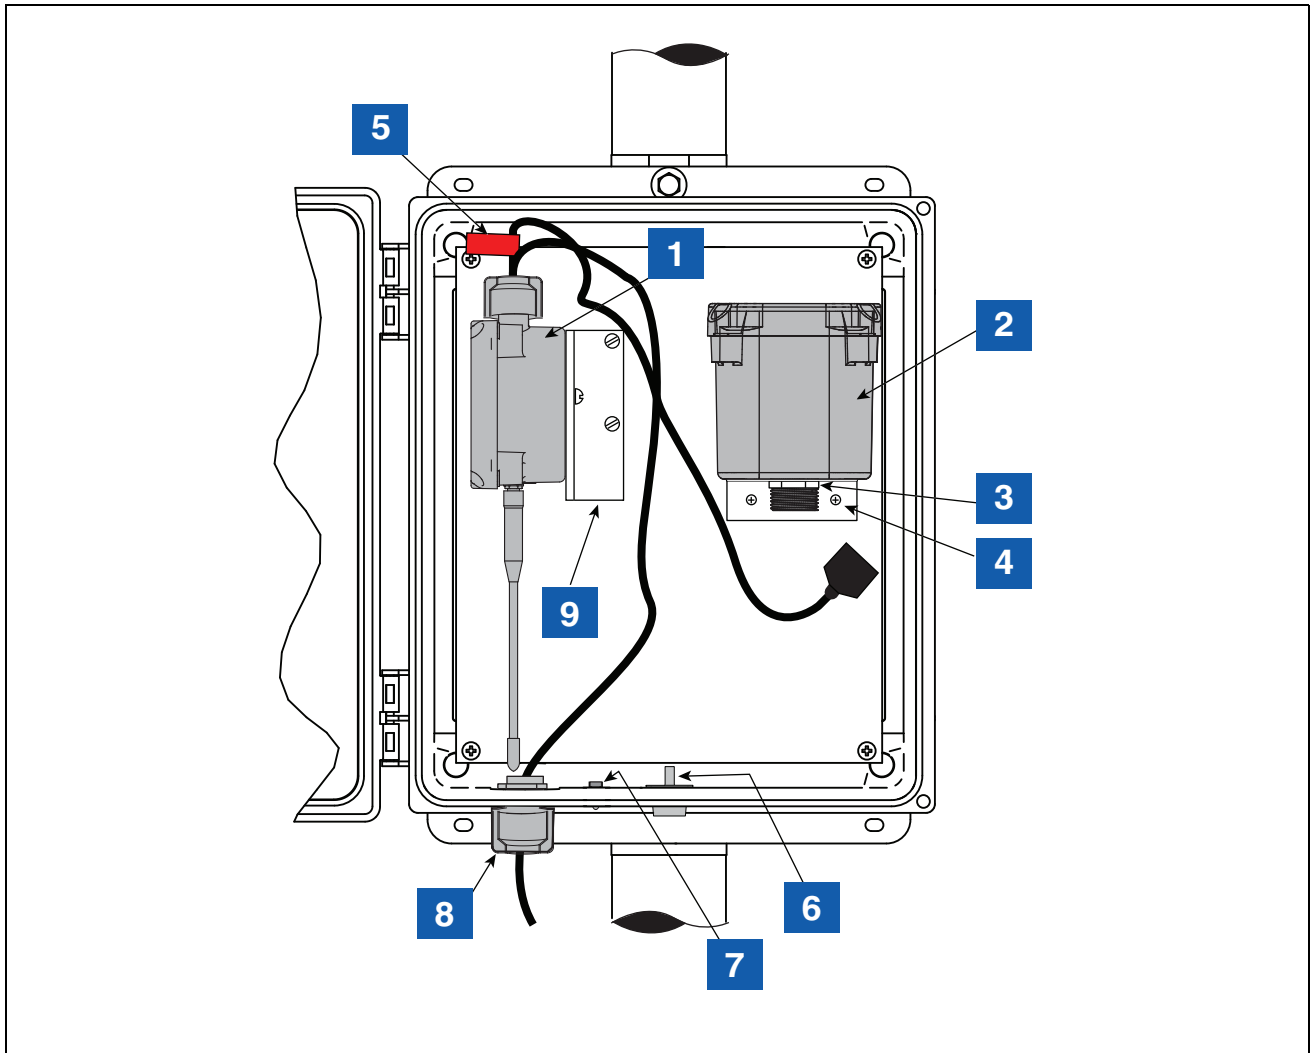

Figure 27. Example CCVP Transmitter/Battery Pack Installation in Vent Stack Enclosure
4. Using two #10 taptite screws from the 330020-716 kit, attach the Transmitter housing to the side of the L bracket from the 330020-716 kit (item 9 in Figure 27) - do not attach L bracket/transmitter assembly to the back of the enclosure at this time.
6. Get the 514100-475 thin hex nut from the 330020-716 kit and screw it onto the battery housing cable connector threaded fitting until snug (see item 3 in Figure 27).
7. Attach the battery/bracket assembly to the back surface of the enclosure using two #10 taptite screws from the 330020-716 kit (item 4 in Figure 27).
8. Install the cord grip assembly from the 330020-716 kit in the 0.88" diameter hole in the bottom of the Universal Enclosure and route the non-connector end of the Vapor Valve cable from the CCVP into the Universal Enclosure through the cord grip. Tighten the cord grip snug on the cable (item 8 in Figure 27).
12. Push the 027-213-1 Cap plug from the 330020-716 kit into the 0.453" diameter hole in the bottom of the Universal Enclosure until the flange of the plug rests against the inside surface of the enclosure (item 6 in Figure 27).
LEGEND FOR NUMBERED BOXES IN Figure 27